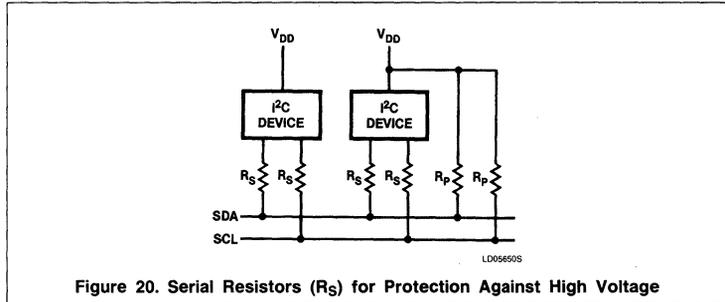

Figure 20. Serial Resistors (R_S) for Protection Against High Voltage
3. Series resistors (R_S) up to 300Ω can be used for flash-over protection against high voltage spikes on the SDA and SCL line (due to flash-over of a TV picture tube, for example) (Figure 20).
Maximum and minimum values of the pull-up resistors R_P and series resistors R_S (See Figure 20).